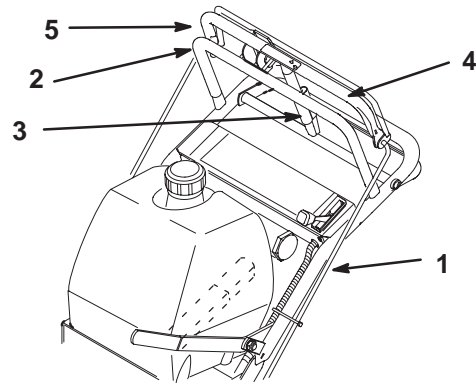

Figure 7
- Check the gap between upper control bar and fixed bar with wheel drive fully engaged. Gap should be approximately 1 to 1-1/4 in. (25-32 mm) (Fig. 7).